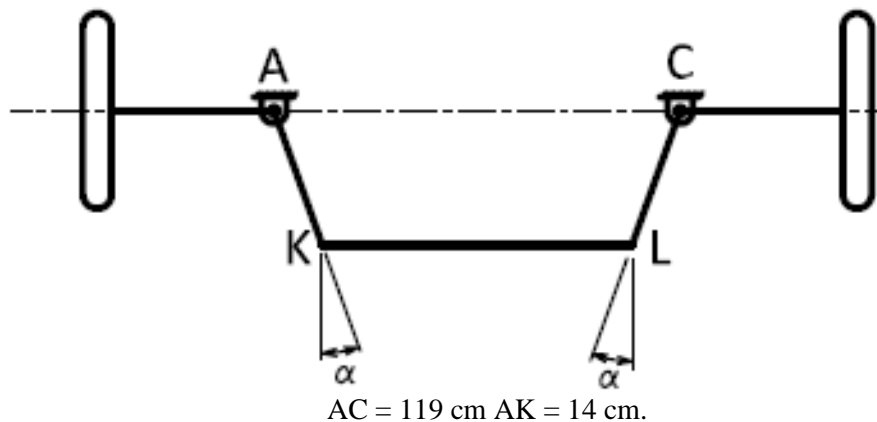

Figure.24
- 1.12 The Ackermann steering gear shown in Figure.24, consists of a four-bar mechanism in which the links AK and CL are equal in length, and are rigidly connected to the stub axles of the two front wheels. In the mid-position, when the car is moving along a straight path, KL is parallel to AC, while AK and CL are inclined to the longitudinal axis of the car by an angle $\alpha = 18^\circ$. Find the angle to which the left front wheel turns when the right front wheel turns 30° to the right (i.e. C.W.).